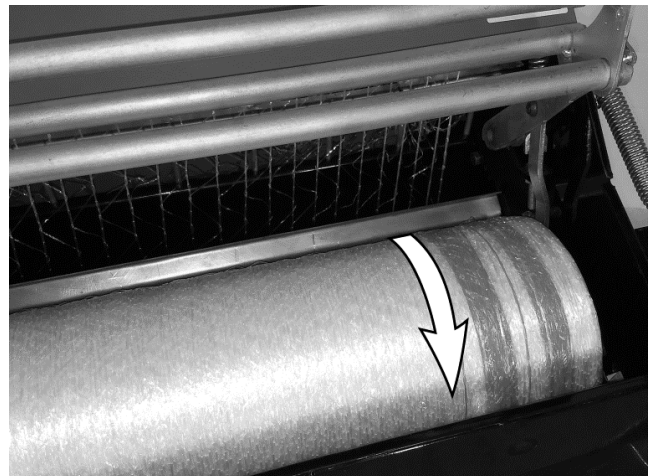

Figure 17 Net feeds forward off top of roll
- b) Place roll in the chamber so that the net feeds off of the top of the roll in front (Figure 17).